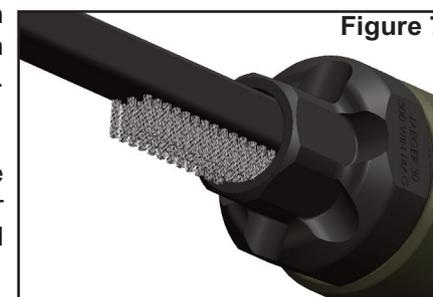

Figure 7
4. Clean the threaded socket in the rear of the JAEGER 30 with a soft bristle brush and solvent. See Figure 7.